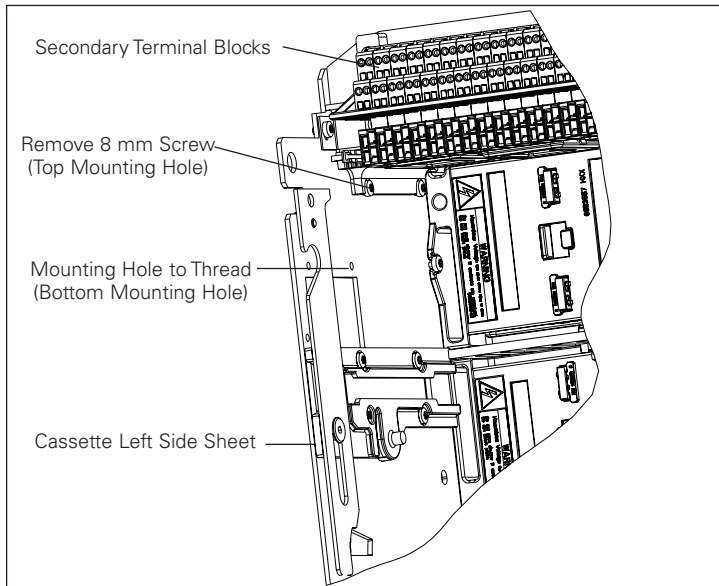
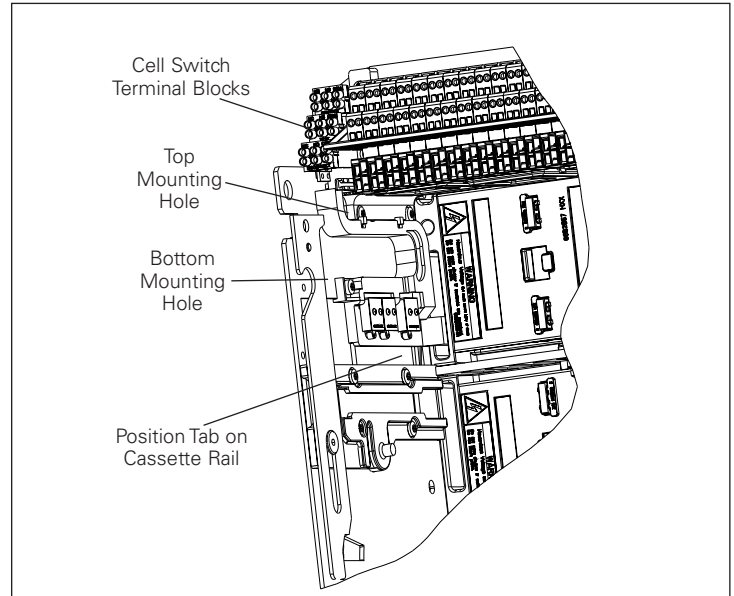

Figure 3. Step 2.
Figure 4. Step 3.
Step 3: Refer to Figure 4 for reference purposes. Mount the cell switch terminal block on the DIN rail to the left of the terminal blocks. This is accomplished by connecting the bottom part of the connection block to the lower part of the DIN rail. The top part of the terminal block can then be snapped onto the upper part of the DIN rail.
Step 4: Once the cell switch terminal block is mounted as described in the previous step, position the cell switch assembly (A) on the inside of the cassette’s left side sheet so the two mounting holes, indicated in Figure 3, match up with the switch assembly mounting holes indicated in Figure 4. In addition, the position tab on the switch assembly shown in Figure 4 should be positioned on top of the left-side cassette rail.
Step 5: Insert the 10 mm TORX head type mounting screw (C) supplied with the kit into the top mounting hole. Next insert the 8 mm TORX head type mounting screw removed in Step 2 into the bottom mounting hole. Torque both screws to 48-60 lbs-in. (5.4-6.7 N-m). Mounting of the cell switch assembly is now complete.